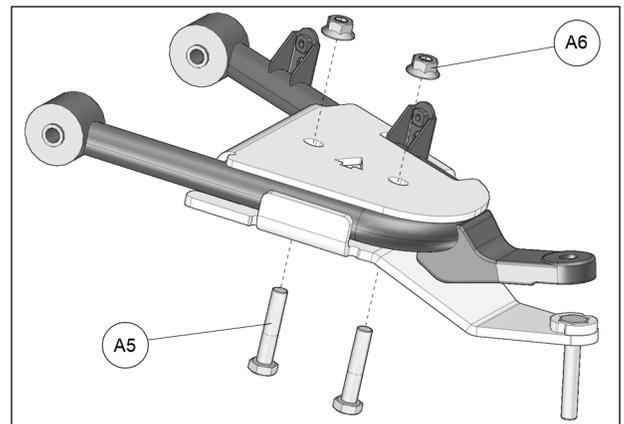

Fig. 18
6. Insert the M10x50mm bolts (A5) through the bottom and secure the two parts together with the nuts (A6) provided. Tighten assembly to 50 N•m [37 lb•ft] of torque. Refer to Fig. 18